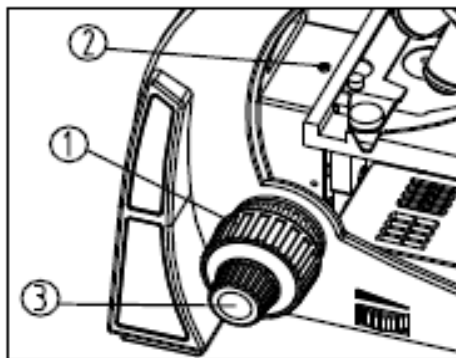

Fig. 10
Focus Adjustment (Fig 10)
2. Observe specimen through the eyepieces. Rotate the coarse focusing knob (1) until the image appears in focus in the view field of view (See Fig.10).
3. Rotate the fine focus knob (3) until the image is in clear focus.
*The lock screw (2) can prevent the objective touching the slide when focusing.